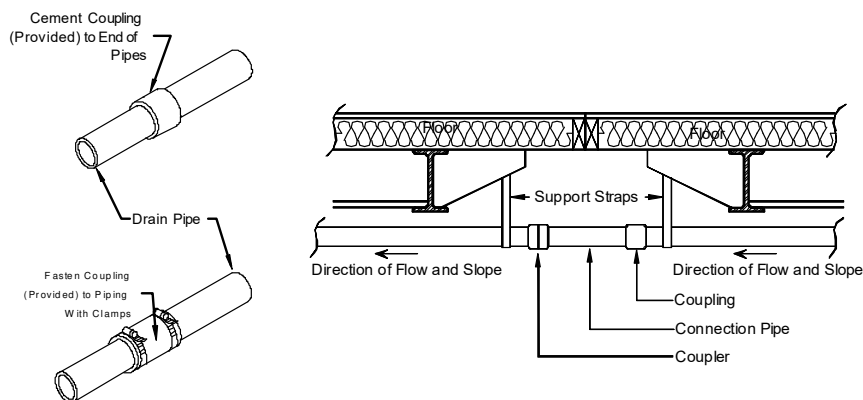
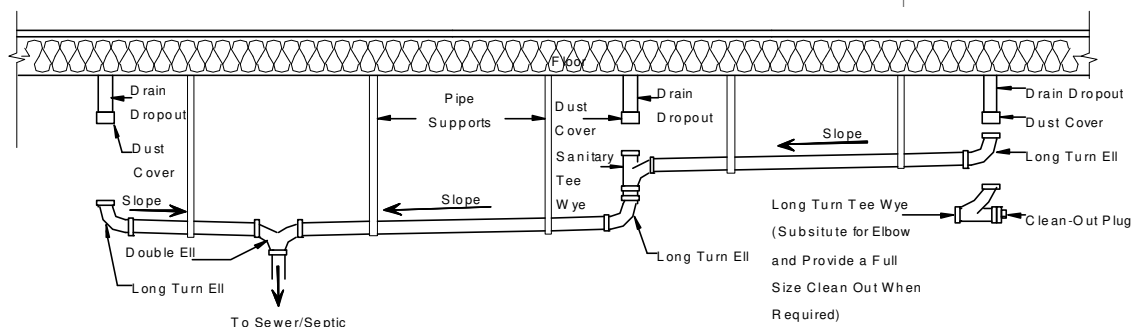
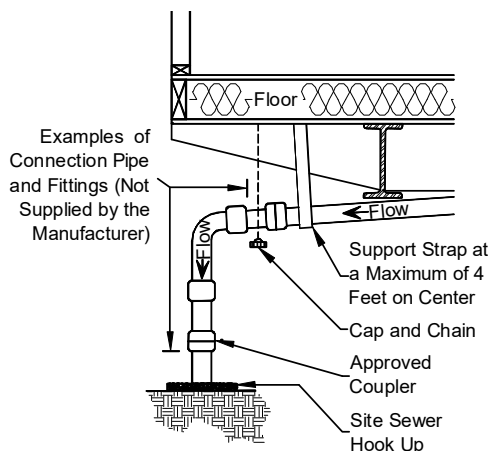
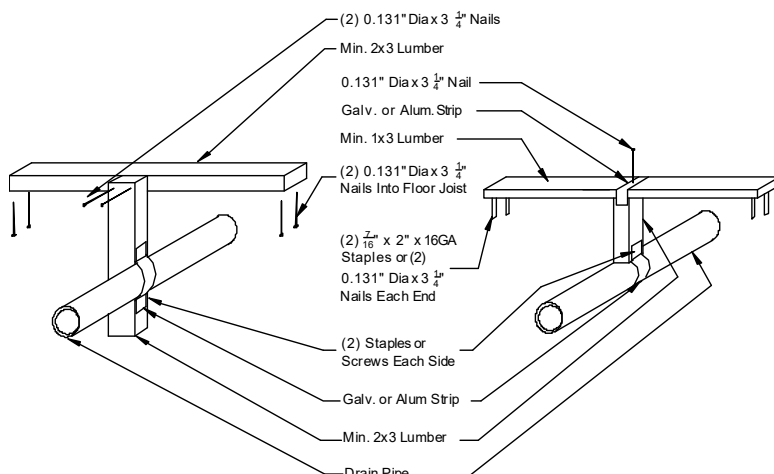

Figure 64. Drain crossover connection
Figure 65. DWV system
Figure 66. DWV connection to sewer/septic
Figure 67. DWV pipe support options
2. **Assemble pipes.** Using the drain schematic drawing provided with the home, begin assembling the DWV system starting at the location farthest from the sewer/septic connection and working towards the outlet, fastening the pipe with cement or adjustable screw-clamp connectors, if provided (**Figure 64**). As the system is assembled, support the piping with temporary blocking. Unless otherwise noted on the schematic diagram, provide a minimum 1/4 inch per foot slope towards the sewer/septic using a plumber's level. Where a slope of 1/4 inch per foot cannot be maintained, use a minimum slope of 1/8 inch per foot and install of a full-size clean-out at the uppermost point of the run (**Figure 65**).
4. **Connect to outlet.** Connect the main drain line to the site sewer/septic hook-up, using an approved elastomer coupling (**Figure 66**).
5. **Install supports.** Install permanent drain line supports at a distance of four feet o.c. or less (see **Figure 64**, **Figure 65**, **Figure 66**, and **Figure 67**).